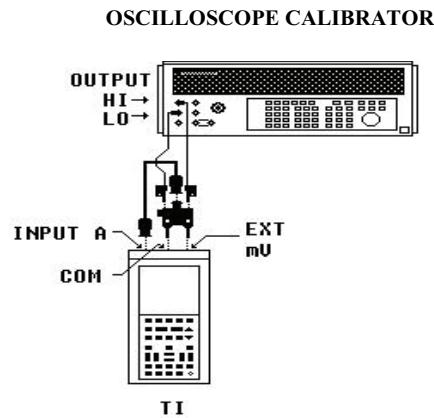

Figure 13. Current ramp.
(59) Connect equipment as shown in figure 13 below: